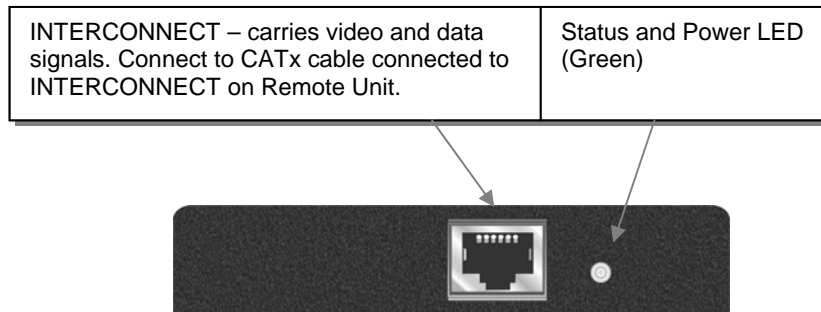

Figure 7 *SDLink Mini Local Unit – front view*
5. Connect the CATx cable from the Remote Unit to the INTERCONNECT socket on the front of the Local Unit (see Figure 7).